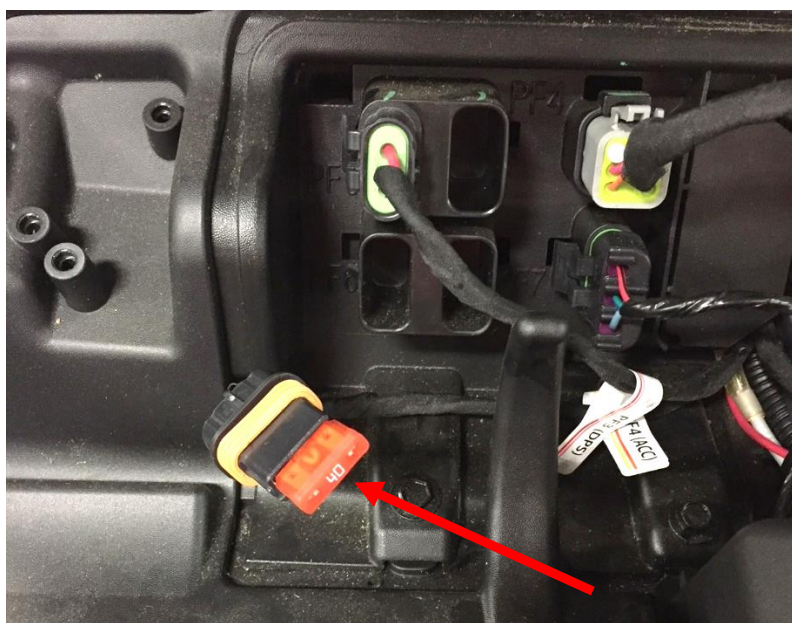
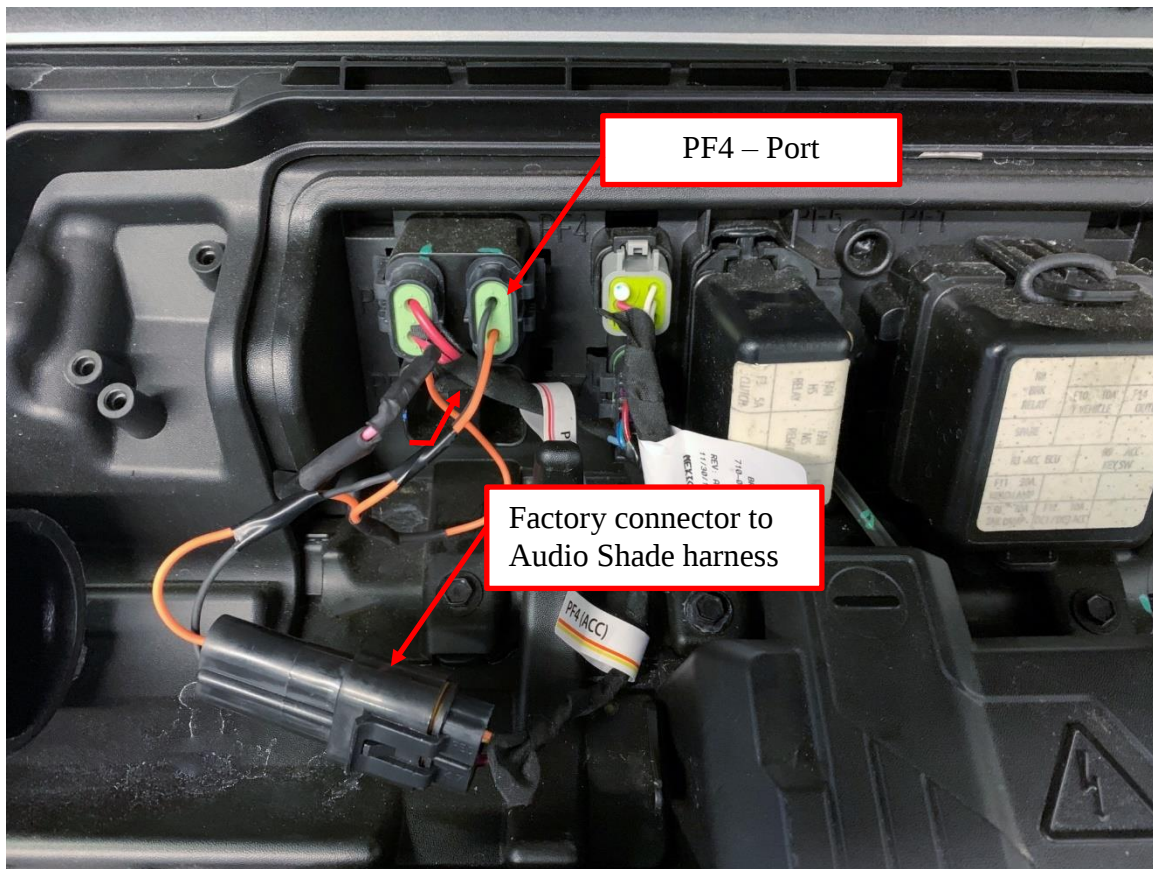

Figure 16: Factory fuse and fuse holder.
Figure 17: Attach the chassis harness and power wires.
17. Remove the 40 amp fuse from the factory fuse holder and place into the matching connector on the Audio Shade harness. This process keeps the factory fuse protection and allows the radio to turn on / off with the ignition switch. See Figure 16 and Figure 17.
18. Place the chassis connector with the fuse back into port PF4. Connect the factory fuse holder with the mating Audio Shade harness connector. See Figure 17.